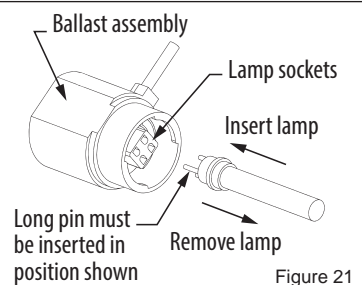

Figure 21
3. Remove the lamp from the lamp socket (Figure 21).